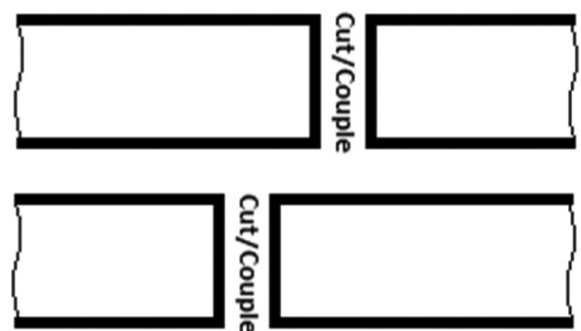

Figure 21. Cups/Plugs and Join Pipes
- ▶ To facilitate reassembly and avoid ambiguity, closely located pipes are cut at the factory in "checkered" pattern (see Figure 21). Once dehumidifier sections are aligned properly, respective pipes would align too.